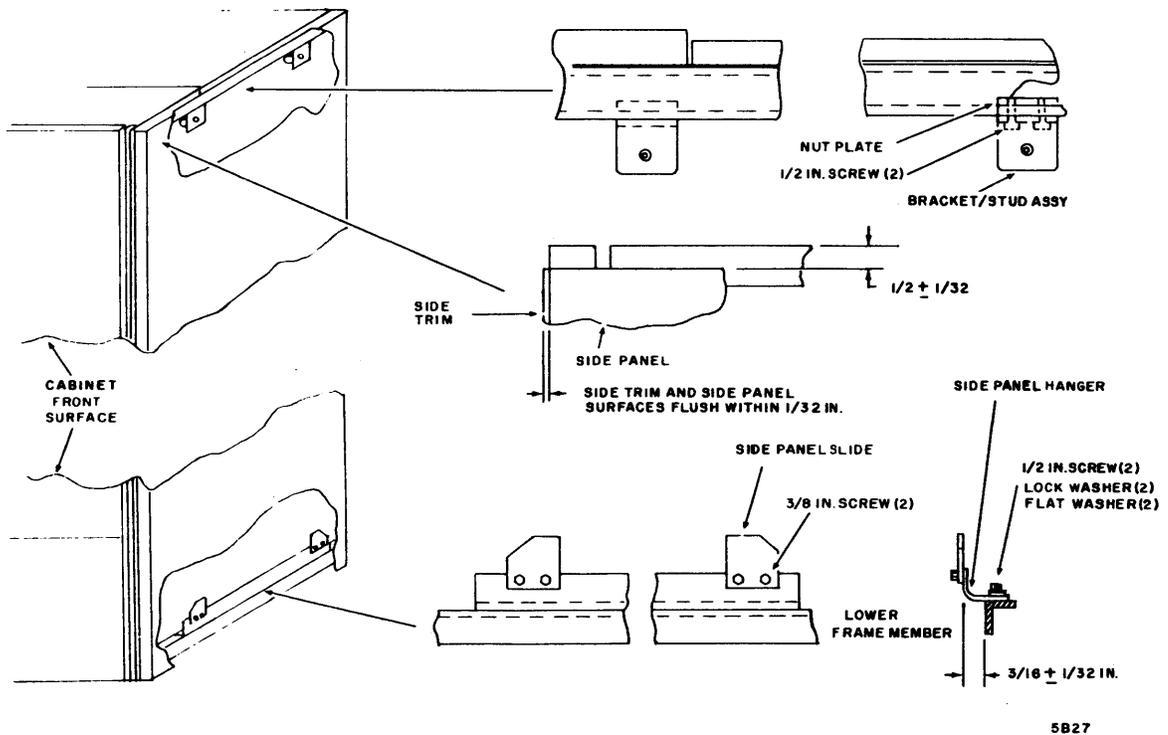

Figure 3-6. Side Panel Installation and Adjustment
- a. Refer to Figure 3-6 and assemble side panel hanger and slides and bracket/stud assemblies to cabinet. Do not completely tighten attaching screws at this time.
- b. Adjust side panel hanger on lower frame member to dimension shown on Figure 3-6. Tighten screws securing hanger. Tighten screws securing side panel slides to hanger.
- d. Loosen upper brackets on side panel, establish the $1/2 \pm 1/32$ inch dimension along top edge (Figure 3-6), and tighten upper brackets on side panel.
- e. Loosen lower brackets on side panel. Move side panel until it is flush with side trim to within $\pm 1/32$ inch (Figure 3-6) and hold it there. Now press side panel toward frame until seal strip along top edge of side panel is compressed at all points. Tighten screws in bracket/stud assemblies.